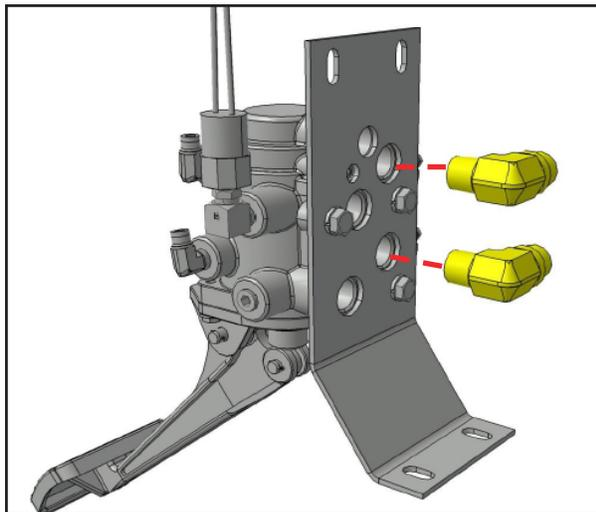

Figure 13: Reinstall two 90° push-to-connect fittings as shown.
15. Place a small amount of Loctite 567 on the threads of the fittings and reinstall the two (2) 90° push-to-connect fittings as shown in Figure 13.
16. Torque 2-3 turns past hand tight, and orientate as shown in Figure 13.